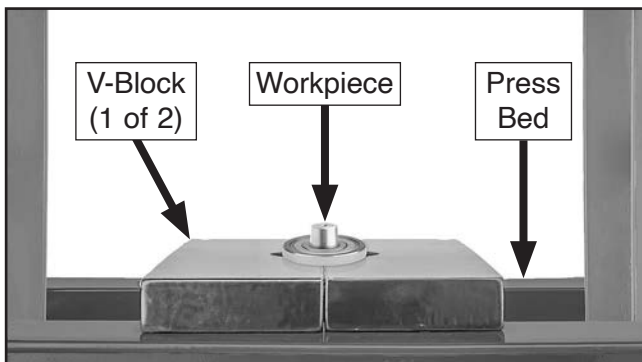

Figure 23. Workpiece centered under ram.
2. Place workpiece on press bed or V-blocks and center under ram (see **Figure 23**).